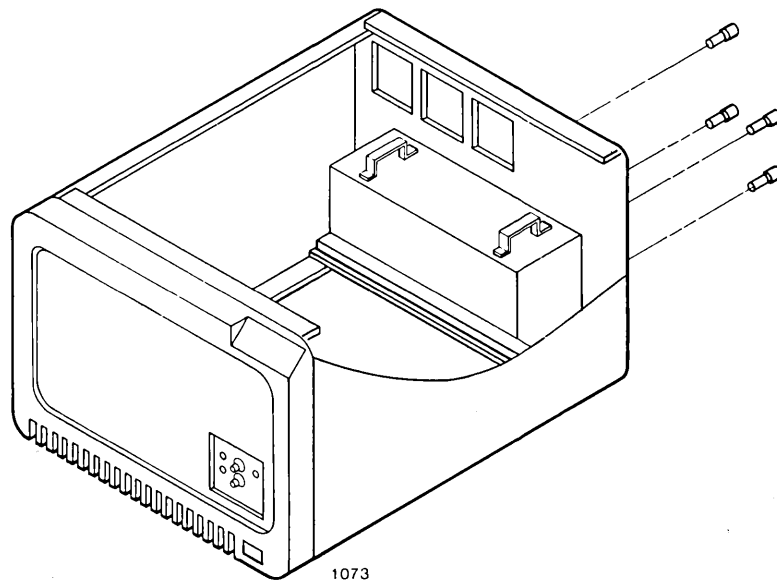

Figure 4-24. Power Supply Securing Screws
9. From the back of the chassis, remove the four screws securing the power supply to the rear panel of the chassis weldment. Refer to Figure 4-24 for the approximate location of the screws.
14. Loosely secure the power supply to the rear of the chassis using the four screws removed in step 9. Refer to Figure 4-24 for screw locations.